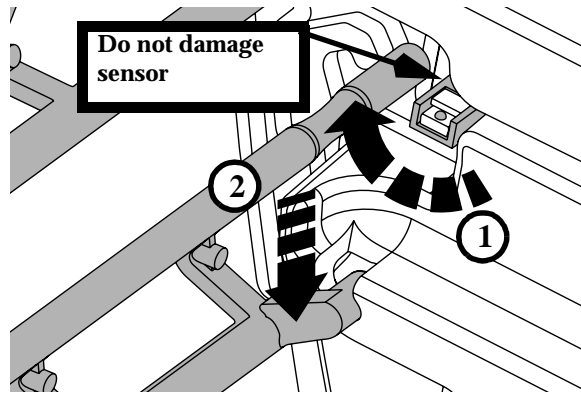

Figure 6
- ◆ Being careful not to scratch the polished sheet metal. Insert the bottom leg of the funnel in both sides of the imager (figure 6). **Important: To ensure proper operation of imager, media funnels must be oriented as shown.**